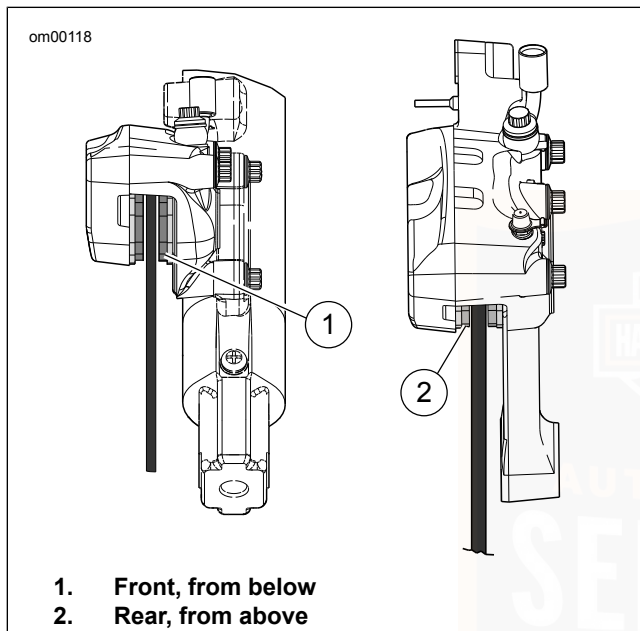

Figure 62. Brake Friction Material
2. See Figure 62. Measure the thickness of the brake pad friction material.